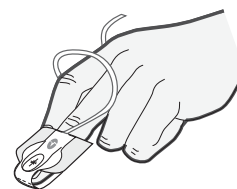

Figure 8
- With the emitter positioned over the fingernail, secure the wings around the finger (see Figure 8).